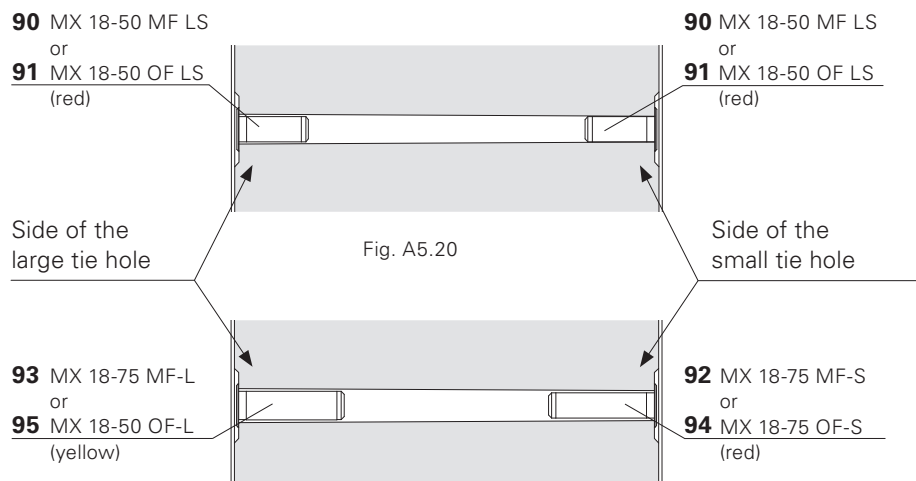

Fig. A5.21
Always install Stopper MX 18-75 MF-S (red) (92) in tie holes with small diameters and Stopper MX 18-75 MF-L (yellow) (93) in tie holes with large diameters. (Fig. A5.21)